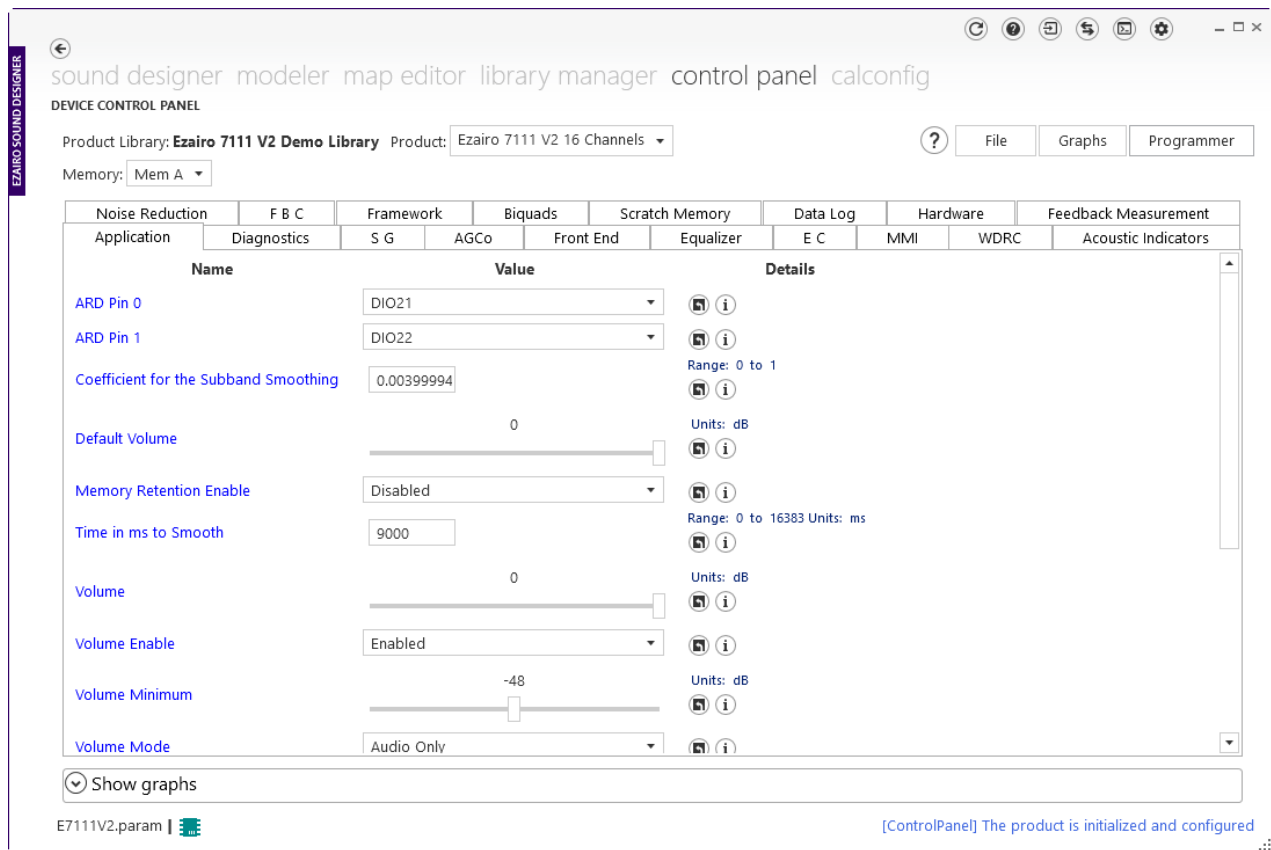

Figure 11. Successful Connection
- Once the connection succeeds, the connection status symbol appears to the right of the file name, as shown below in the "Successful Connection" figure (Figure 11). You can hover over this symbol to view the programmer name and the firmware ID of the device. It is now possible to configure the device parameters.